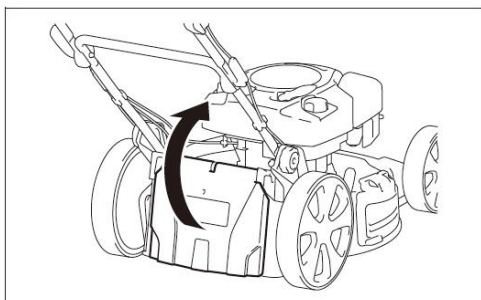

Fig.4A
1. To fit: lift the rear discharge guard and fit the grass catcher. (Fig. 4A/4B/4C)